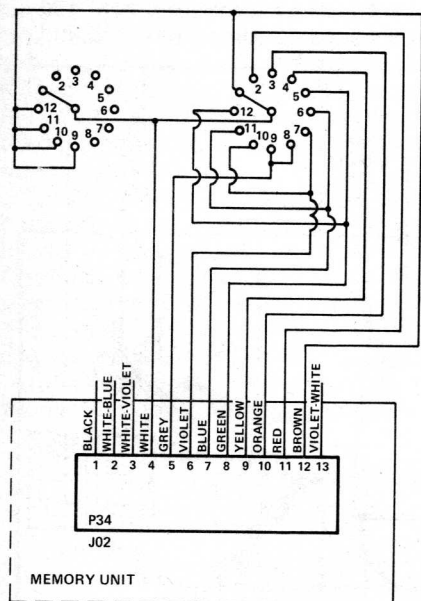

Figure 1: Existing memory switch wiring.
13. Refer to **Fig. 1** and check the colours shown against P34 (pins 4 to 12) from the memory unit appear on S5. If your Rx has different coding to that shown then write in your own colours to correspond with **Fig. 1**. Remove all wires to S5. The wires from A16 and A17 are not used and should be stored within the main cable harness.